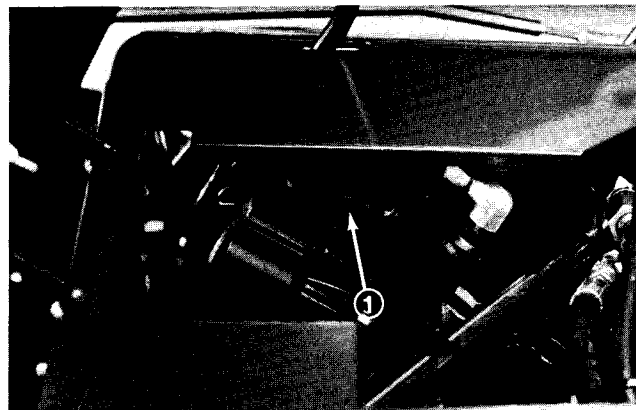

Figure 9
1. Disconnect the mow/lift switch wire connector and install a continuity tester or ohm meter between the two leads of the mow/lift switch (Fig. 9).